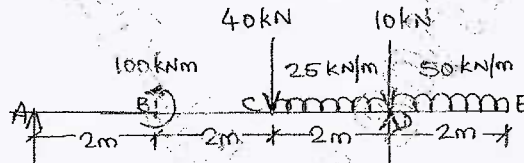

Fig. Q5 (b)
- b. A beam 8 m long is simply supported at two points and loaded with concentrated loads, two UDL and a couple as shown in Fig. Q5 (b). Draw SF and BM diagrams. (14 Marks)